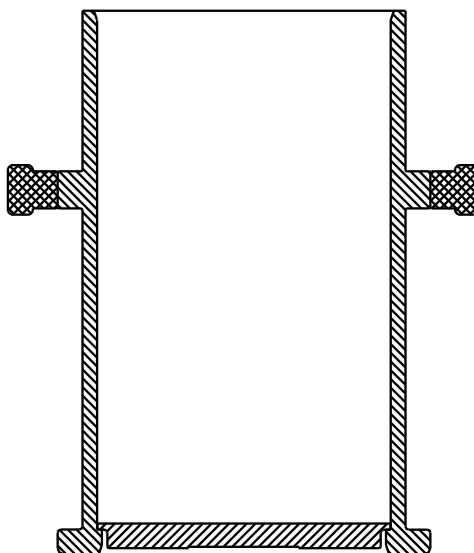
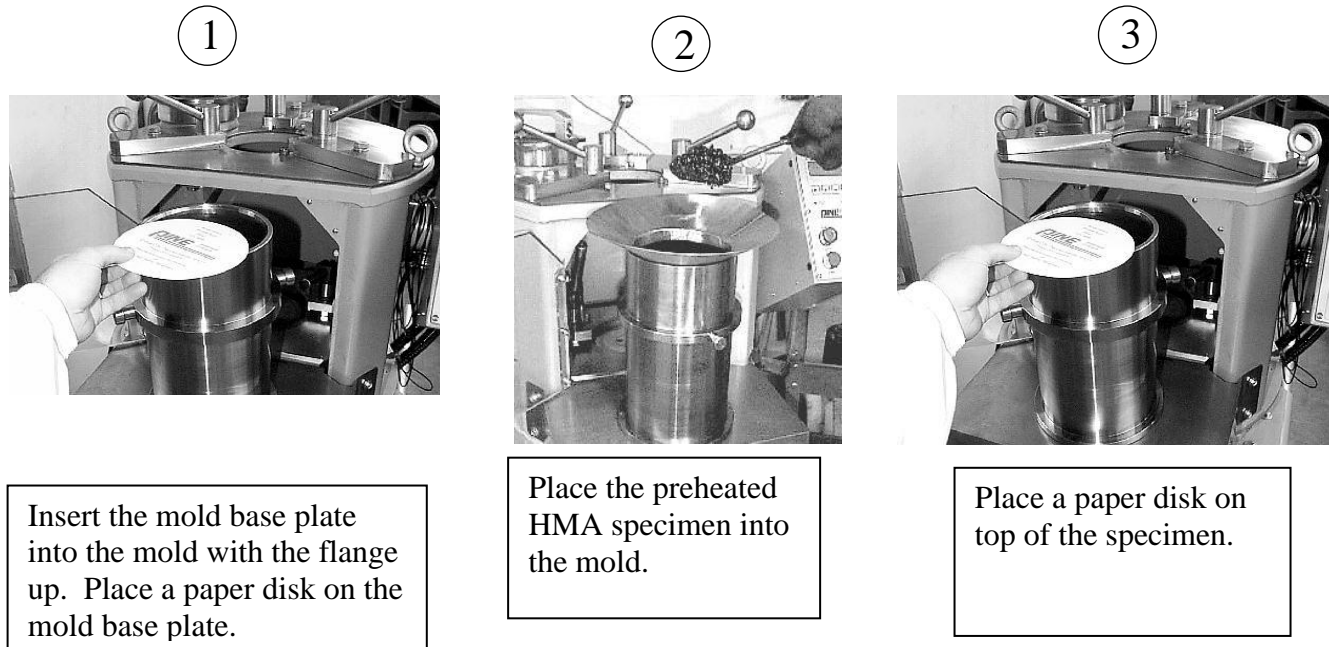

Figure 4.1: Mold Assembly
Figure 4.2: Mold preparation
Clean the mold, mold base and mold top. A clean mold assembly is essential for repeatable results. Preheat the mold and mold base plate. The mold base plate is usually preheated in the mold. Note the correct orientation of the mold base flange is up (Figure 4.1). The mold top does not require preheating, although it is possible to preheat the mold top in the oven or with a hot plate if desired. The preheat temperature is usually 150° Celsius (300° Fahrenheit). Consult the specific test procedure being followed for exact instructions on proper preparation and aging of the specimen. Place the preheated mold with its base plate on the compactor work surface. Next, place a paper disk into the mold on top of the base plate. Load the loose, properly prepared HMA specimen into the mold. Place a paper disk on top of the specimen (Figure 4.2).
- ① Prepare the mold (see Figure 4.2).
- ② Insert the mold into the compaction chamber.